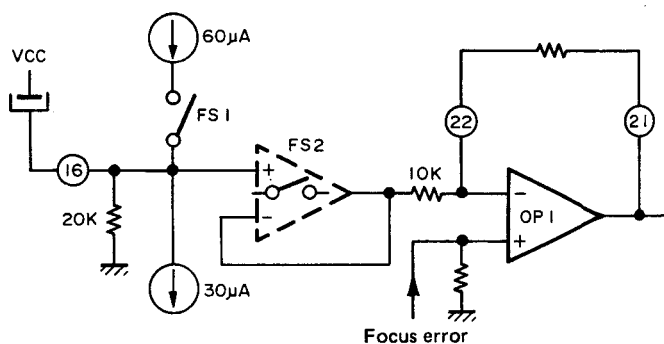

Fig. 7-3 Explanation of FS1, FS2
The operation of FS1, FS2 is described next. ⑳, ㉑ etc. in Fig. 7-3 indicate terminal numbers of CX20108 (same hereinafter) OP1 is the operational amplifier for focus servo and the output of FS2 is connected to its inversion terminal. FS2 is such a switch that is ON and works as a usual voltage follower at the time of 1; and that its output is of high impedance at the time of 0. FS1 is a simple current switch which is OFF at the time of 1 and works to allow flow of 60μA at the time of 0. This value of 60μA is what is obtained when 240μA is fed to ISET (⑭) terminal. The voltage for focus search is produced using these FS1, FS2.